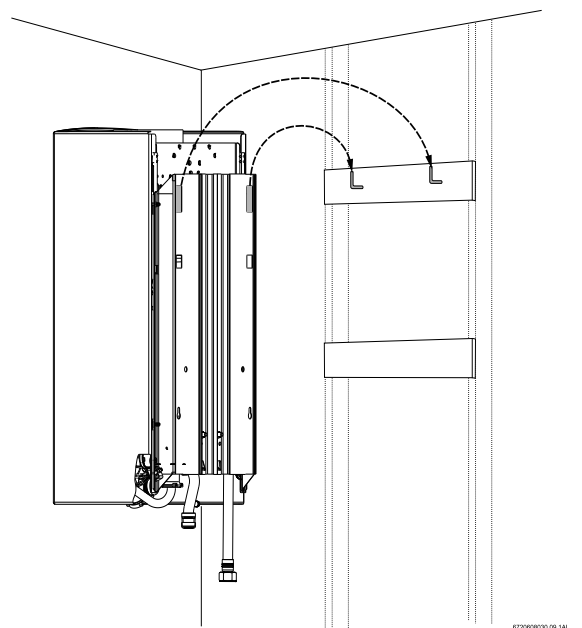

Fig. 8 Secure heater to wall
- ▶ Hang heater on two L shaped hooks (See Fig. 8).